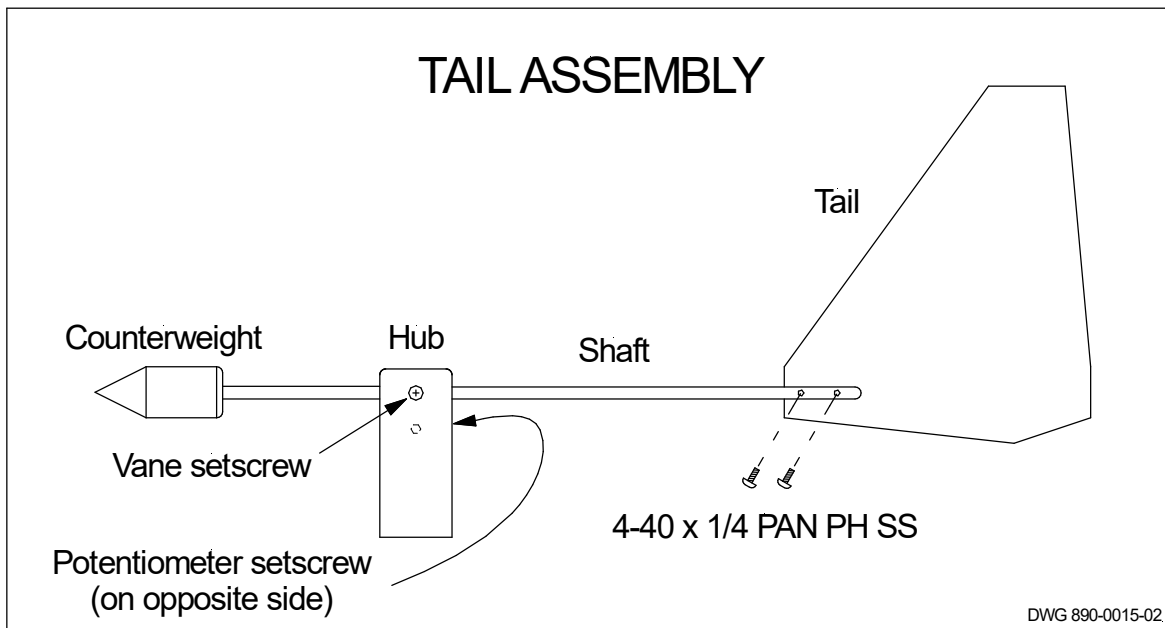

Figure 1
3. The final step is to balance the wind vane. Hold the base of the sensor and turn it sideways so that the sensor is horizontal to the ground. If the vane is balanced it should show no tendency to rotate. If it is not balanced either the counterweight or tail will rotate downwards. If the vane is out of balance, loosen the vane set screw (Figure 1) and slide the vane either forwards or backwards to balance the vane. Don't forget to align the tail with the vertical axis while you tighten the set screw.